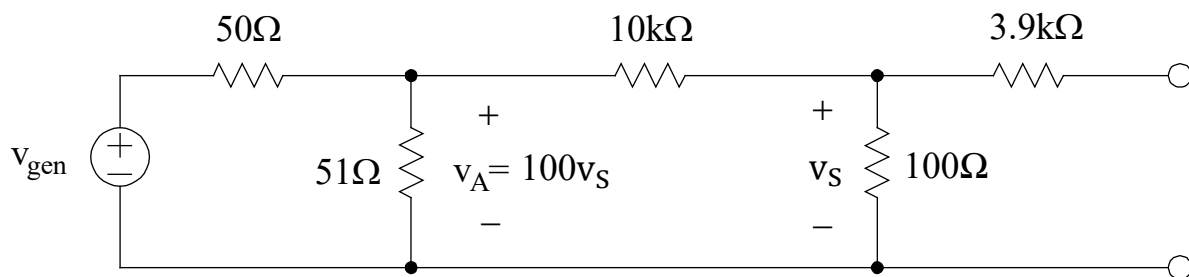

Fig. 1: Attenuator circuit for Lab#6.
- (c) Again, this design is meant to amplify a small signal. You should keep your generator input low enough using a matching circuit to insure the small-signal models used for design are justified. Figure 1 depicts an example circuit. Note that the 51Ω resistor is only necessary if you are operating the signal generator in 50Ω (as opposed to high- Z) mode.